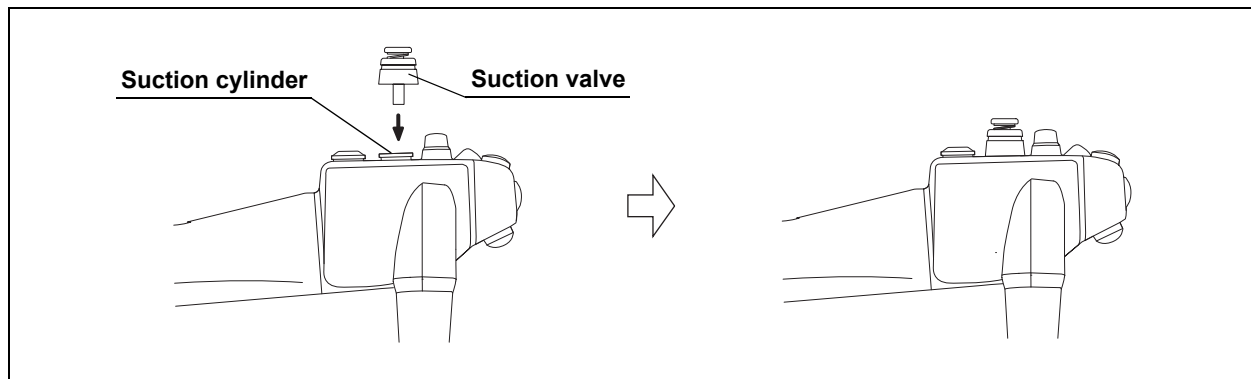

Figure 3.29
- 2 Attach the suction valve to the suction cylinder of the endoscope. (See Figure 3.29 and 3.30)